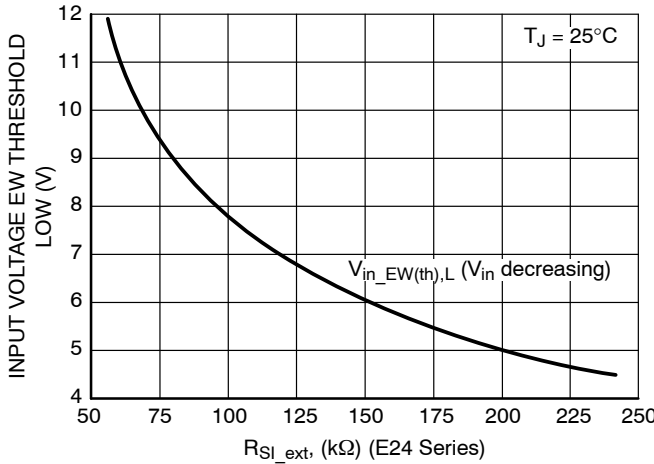
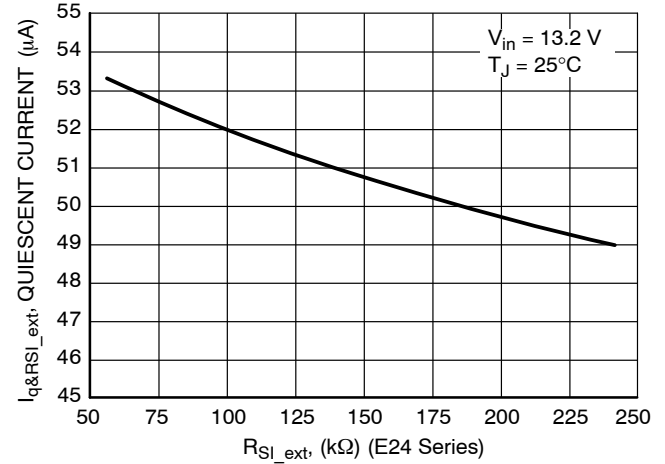

Figure 26. Input Voltage EW Threshold Low vs.
Figure 27. Quiescent Current vs. R_{SI_ext}
13. I_q for Preset EW Threshold Options is measured when R_{SI_ext} is not used. For typical values of I_q vs R_{SI_ext} see Figure 27.
Practically only preset options above 4.5 V can be used without R_{SI_ext} due to minimum operating input voltage value limitation. For other preset options the trip point has to be adjusted externally using R_{SI_ext} resistor connected between input monitor SI and GND (see Figure 1). For other preset options R_{SI_ext} has to be used to achieve $V_{in_EW(th)} > 5.5$ V (minimum operating input voltage value). The value for R_{SI_ext} is recommended to be selected in range from 50 k Ω to 250 k Ω and the trip point can be shifted according to Figure 26. In case of R_{SI_ext} values higher than 200 k Ω two resistors in series could be used in order to eliminate leakage current of the resistor and hence ensure precision of its resistance value. The higher is R_{SI_ext} the lower is overall Quiescent Current of the application (see Figure 27). General formulas for calculation of $V_{in_EW(th)Low}$ or R_{SI_ext}
The Sense Output is from an open drain driver with an internal 30 kΩ pull up resistor to V_{out} . Figure 26 shows the SO Monitor timing waveforms as a result of the circuit depicted in Figure 1. If the input voltage decreases the output voltage decreases as well. If the SI input low threshold voltage is crossed it causes the voltage on the SO output goes low sending a warning signal to the microprocessor that a reset signal may occur in a short period of time. TWARNING is the time the microprocessor has to complete the function it is currently working on and get ready for the reset shutdown signal.